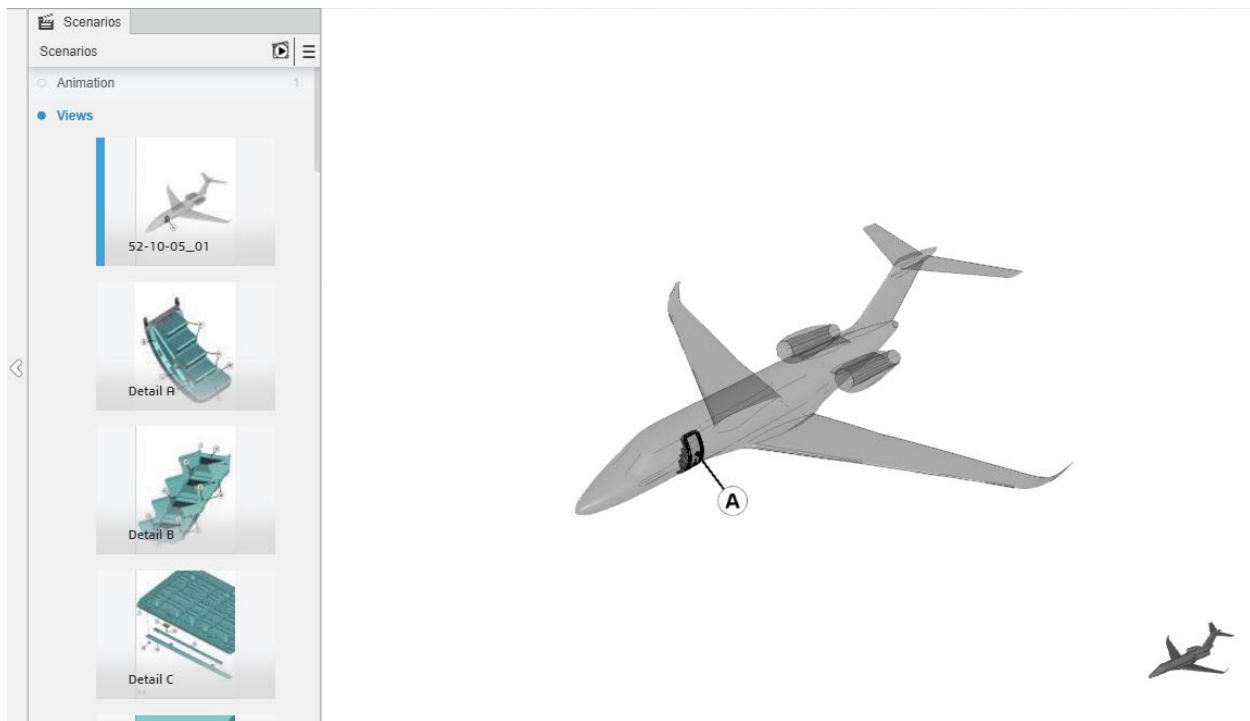

Figure 20 - Interactive 3DPlayer plugin displays the interactive content.
2. Once selected, the interactive 3D plugin will open a new browser tab and display the interactive content for the document you have open in 1View (Refer to Figure 20).